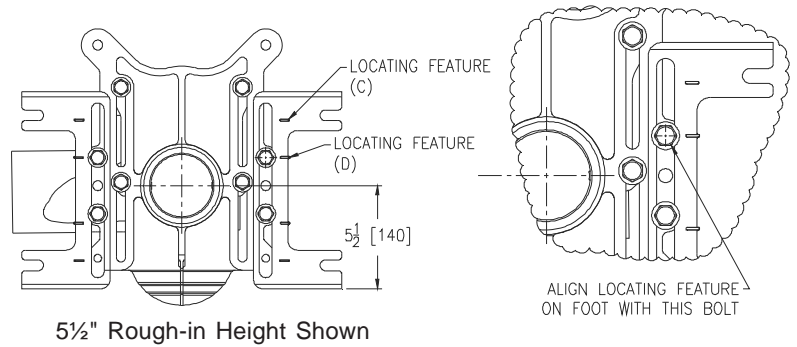

Fig. 6
6. Factory faceplate/feet assembly is set for a 5 ½” rough-in height. Locating featuring C (See Fig. 6) on each foot identifies at 7 ½” rough-in height, commonly used for ADA applications. To adjust the rough-in height, loosen the feet bolts and set the top two bolts to the desired height (adding additional height for tiling where required). For the highest position, swap bolts from A to B location. See Fig. 6a. Secure bolts using wrench (25-35 lb-ft of torque).